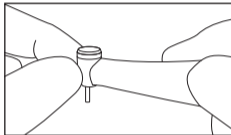

Fig. 5
- 4 After the handpiece rotation has completely stopped, touch the handpiece head to confirm it is not heating abnormally (Fig. 5).